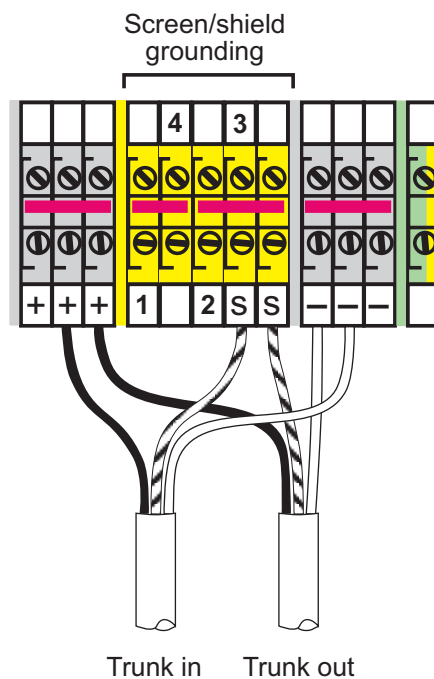

Figure 4.7 - Trunk Cable Connections in TTA
- c) Connect the prepared ends of the fieldbus trunk cable(s) into the appropriate '+', '-', and 'S' terminals, shown in Figure 4.7, and tighten the screw terminals to a recommended torque of 0.6 Nm.
Note: Figure 4.7 shows the screw-terminal 'PS' enclosure option, but the 'PC' cage-clamp terminal arrangement is similar.